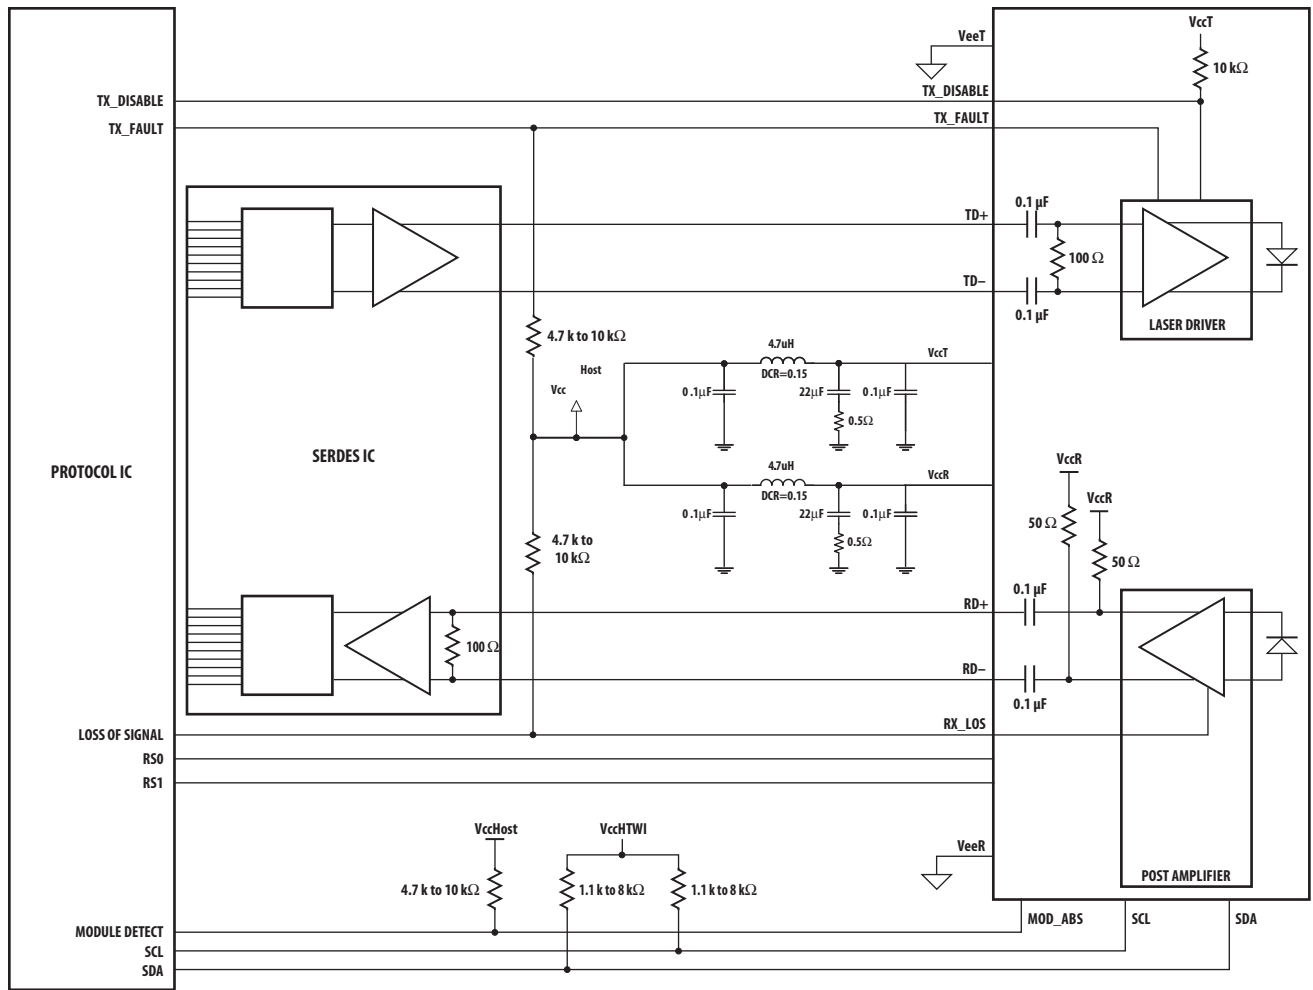

Figure 2. Typical application configuration
Figure 2 depicts the recommended interface circuit to link the AFCT-701ASDZ to supporting physical layer ICs. Timing for the dedicated SFP+ control signals implemented in the transceiver are listed in Figure 5.
2. This is an open collector/drain output that on the host board requires a 4.7 kΩ to 10 kΩ pullup resistor to VccHost. See Figure 2.